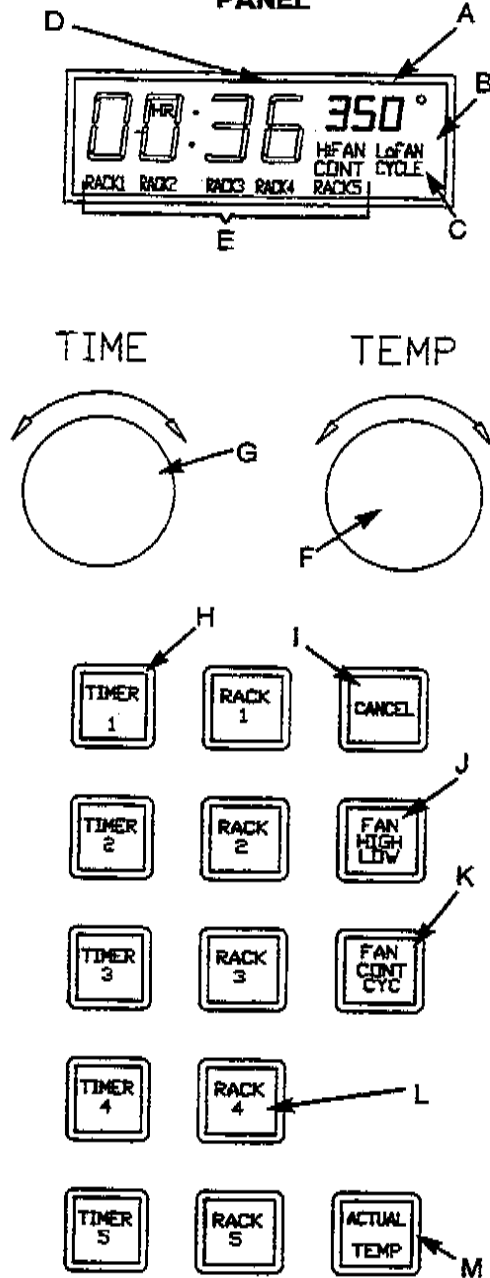
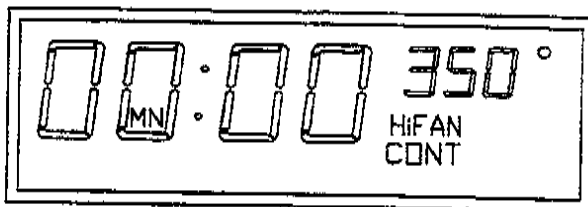
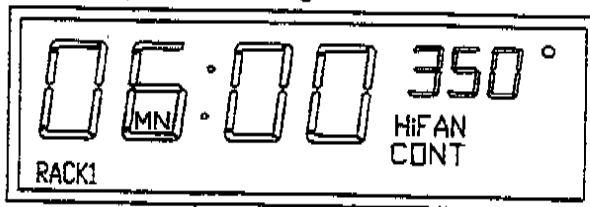

FIGURE 29
FIGURE 30
FIGURE 31
- N. High- low BTU Switch allows operator to choose between 30,000 BTUs on high and 20,000 BTUs on low (Not shown in Figure 29).
First to turn the oven on, press the power switch "On." Then adjust the "Temperature Adjustment Knob" (Item "F" figure 29) until the "Temperature Setpoint Display" (Item "A" figure 29) reads the desired cooking temperature. As an example, let's select 325°F or 163°C. Now press the "Fan Mode Selector Button" (Item "K" figure 29) until the "Fan Mode Indicator" (Item "C" figure 29) reads "Cont" for continuous fan. Next press the "Fan Speed Selector Button" (Item "J" figure 29) until the "Fan Speed Indicator" (Item "B" figure 29) reads "HiFan" for high speed fan. Your display will look like figure 30. Next, press the High Low BTU switch to choose high at 30,000 BTU or low at 20,000 BTUs.
The oven will heat up until the setpoint is reached; the "Temperature Setpoint Display" will then stop flashing and the control will beep. Now the oven is ready to load. After you have loaded rack number 1, adjust the "Timer Adjustment Knob" (Item "G" figure 28) until the "Timer Display" (Item "D" figure 29) reads the desired cook time. For our example, We will use 6 minutes. Then immediately press the "Rack Selector Button" (Item "L" figure 29) of the rack that you loaded. The oven is now timing and the display will look like figure 31.
The Flashing "Rack Indicator" (Item "E" figure 29) Tells you that rack number is being timed and that it is the next to finish. Once the timer times out, the "Timer Display" (Item "D" figure 28) will display which rack should be removed and the oven will beep until the "Cancel" (Item "T" figure 29) button is pressed.
You have seen how you can dial in a different temperature for each load and how the oven times each pan independently. Remember that all products being loaded into the oven must require the same cooking temperature during the same period of time. The oven is also provided with five timers that you can set. These are "Timer Selector Buttons" (Item "H" figure 29). These are used to quickly set the cook time after a pan is loaded. To set the time for each of these buttons, simply press the timer button while you adjust the "Timer Adjustment Knob" and then release the button. To check the timer setting, press the timer button. Each timer can be used for a different product you cook. To use these buttons, follow the steps: